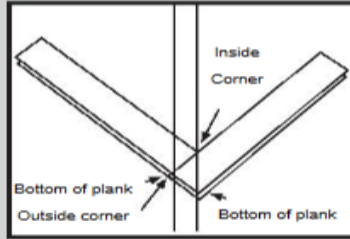

Fig 5.
5. This is your starting angle. Note: 3/16" (5 mm) spacers are required at all walls or vertical abutments (Fig 5.).